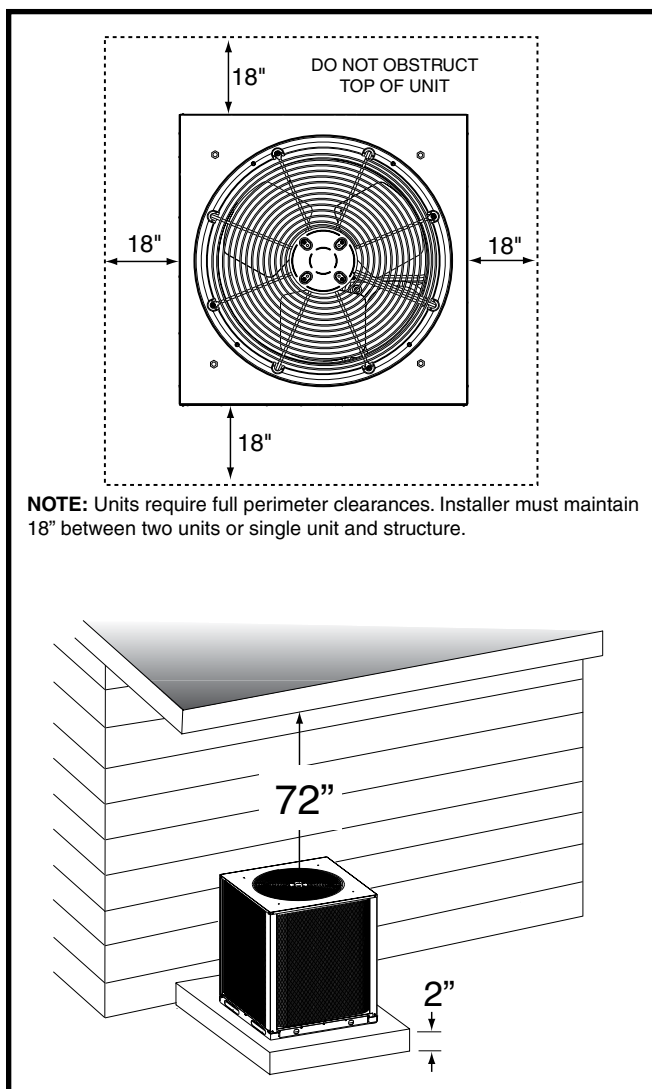

Figure 1. Minimum Clearance Requirements
- Overhead obstructions (Figure 1), poorly ventilated areas, and areas subject to accumulation of debris should be avoided.
- Sufficient clearance for unobstructed airflow through the outdoor coil must be maintained in order to achieve rated performance. For minimum clearances to obstructions, see Figure 1.
Ground level installations must be located according to local building codes or ordinances and these requirements. Clearances must be in accordance with those shown in Figure 1.
A suitable mounting pad must be provided and be separate from the building foundation. The pad must be level and strong enough to support the unit's weight. The slab height must be a minimum of 2" (5 cm) above grade and provide adequate drainage. See Figure 1.